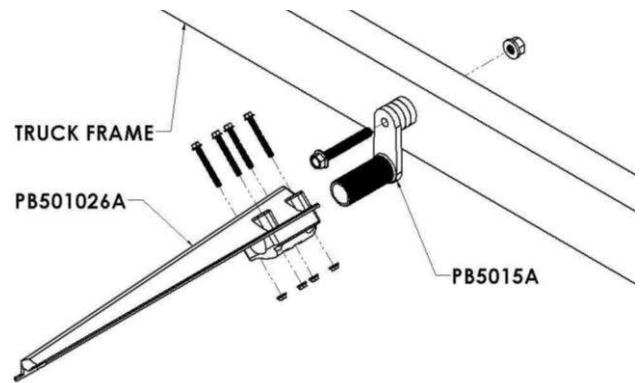

Figure 11
- A. Once the brackets are placed in position with the fender, securely tighten the 5/8" x 4-1/2" bolts that go through the PB5015 steel swivel to attach the swivel securely to the frame (Figure 11).